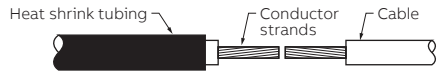

Figure 2
3. Place the heat-shrink tubing over the clean cable. Protect heat-shrink tubing from possible damage from conductor as it is placed over the cable end, Figure 2.